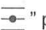

Fig.6E
4. Standing behind the mower grasp the brake control handle and hold it against the upper handle as shown in fig.6E.
5. Grasp the starter handle as shown Fig. 6E and pull up rapidly. Return it slowly to the rope guide bolt after engine starts.
4. Standing behind the mower grasp the brake control handle and hold it against the upper handle as shown in fig.6E. Turn the ignition key fully to the right in the ignition lock. (Fig.6F/Fig.6G/Fig.6H)